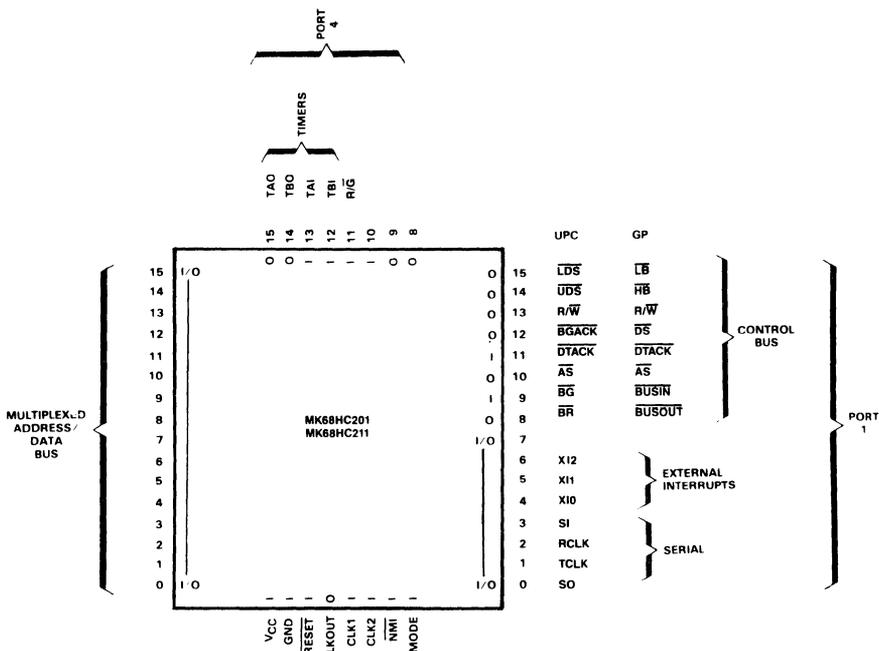
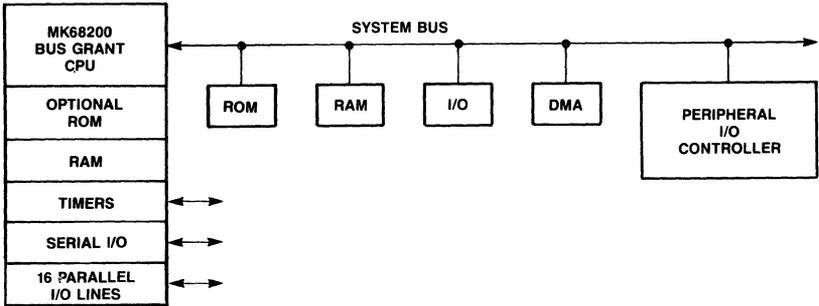

Figure 8. MK68HC201, MK68HC211 Logical Pinout Expanded Bus
Figure 9 . Host CPU Hardware Configuration
By programming the appropriate bits in Port 15 (which are described below), the MK68HC200 may be reconfigured dynamically. In an expansion mode Port 0 becomes the 16-bit multiplexed address/data bus and eight bits from Port 1 become control signals which handle data transfer and bus arbitration. Sixteen lines are still available for I/O functions, including eight lines from Port 1 and all eight lines of Port 4. See figure 8 for the expanded bus pinout. The following page describes the functions of the expanded bus pins.
As shown in figure 8, two different control bus versions are available: a Universal Peripheral Controller (UPC), and which generates 68000 compatible bus signals, and a General Purpose (GP) bus, which can be used to interface to a wide variety of existing microprocessor buses. With the selection of an expanded bus mode, the MK68HC200 can act either as a general purpose CPU chip (bus grant device) or as an intelligent peripheral I/O controller to a host CPU (bus request device). These two system configurations are illustrated in figures 9 and 10.
With the GP bus option, the user may configure the MK68HC200 in either of the two ways shown in figures 9 and 10. As a host CPU (Figure 9), the MK68HC200 bus arbitration logic causes the device to act as the system bus grantor. In other words, the MK68HC200 would have control of the system bus and would grant its use